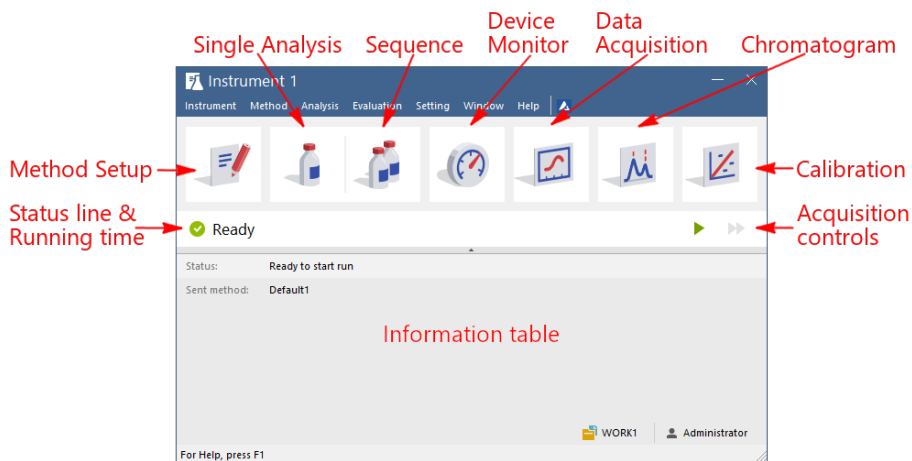

Fig 3: Instrument window
- The **Instrument** window will open; **Fig 3** on pg 9. shows the most important icons in this window. During the tour, we will present all windows related to these icons.
- Run the analysis by clicking the *Run* button (7). The **Single Analysis** dialog will close now, but if you open it again, you will see three more buttons (*Stop*, *Abort*, *Snapshot*) accessible, allowing you to stop or abort the analysis or take snapshots (see the chapter "**Data Acquisition window**" on pg 12.).
- In the **Instrument** window, look at the *Status line* (see **Fig 3** on pg 9.). The acquisition is now signaled by the *RUNNING* state and the actual run time is displayed there.
- To see the data acquisition in process and possibly control it, use the **Data Acquisition**  icon (see **Fig 3** on pg 9.) to enter the **Data Acquisition** window.
- In the **Data Acquisition** window two signals can be seen. This is because the analysis is set as two-detector ① analysis.